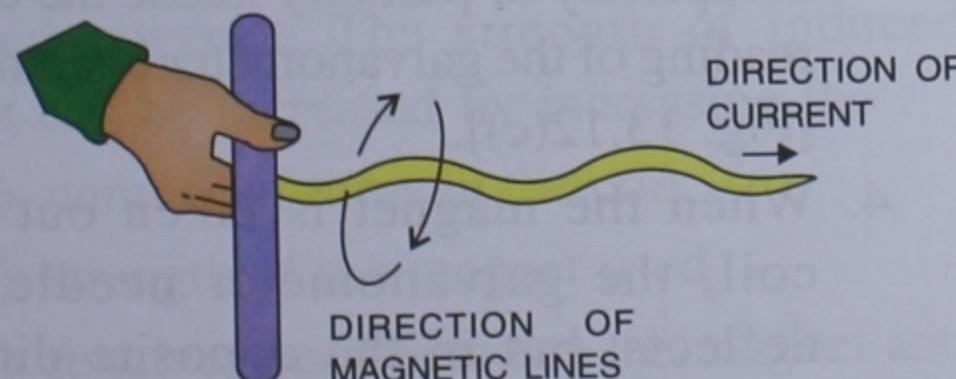

Fig. 13.9 Right hand cork screw rule
(2) Right hand cork screw rule : Hold a cork screw in your right hand and rotate its handle in such a way that the screw moves in the direction of current flowing in the straight conductor. The direction in which the thumb rotates gives the direction of magnetic lines of forces, as shown in Fig. 13.9. The direction of current in the conductor is towards the right and the magnetic field lines are clockwise, as observed from the side of holding the screw.